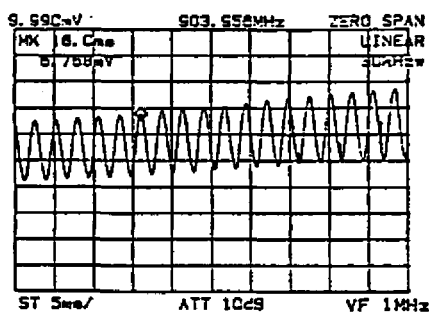

Figure 5-5 Reading the Time Display of Marker
- ⑨ Press the ☐ **CTR PREQ** key and turn the  to adjust the signal level to make it the maximum.
- ⑩ Press the ☐ **TRIGGER** key and set the trigger mode to VIDEO.
- ⑪ Press the ☒ **SAMPLE DET** key and set the sweep time to a value that can be observed easily.
- ⑫ Press the ☐ **MARKER** key and turn the  to set the marker to the peak of the modulation signal. Keep recording the time indication of the marker at this time (Figure 5-5).